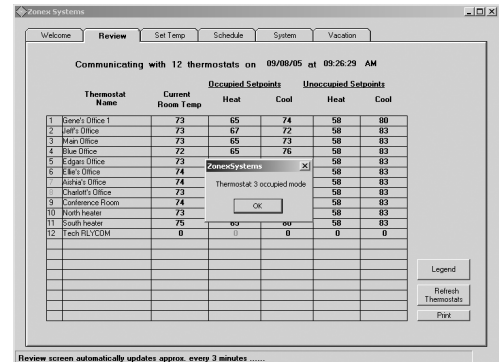

Fig. 18
1. Click on the thermostat number to confirm that the thermostat is in the **Occupied** or **Unoccupied** mode (see Fig. 18).